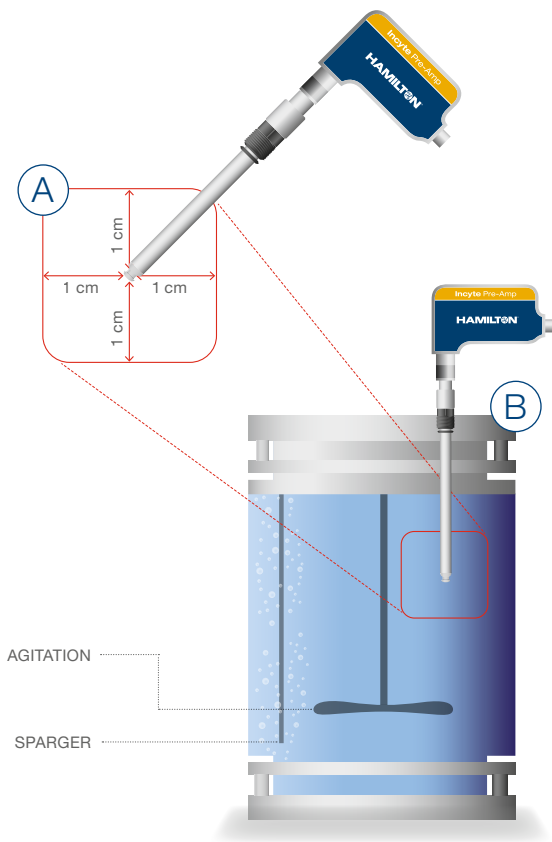

Figure 22: Mounting restrictions, A: Space requirements / B: Reactor mounting restrictions.
- Select the most appropriate port for mounting the sensor (Figure 22). Choose a position where gas bubbles may not interfere with the measurement, for example in ports opposite to the sparger or at a significant distance. Gas bubbles interfere with the measurement and may cause reading errors. The electrodes of the Incyte sensor have to be kept at least 1 cm away from any solid parts, especially metallic ones. The electric field may be subject to interference and the measurement may be affected.